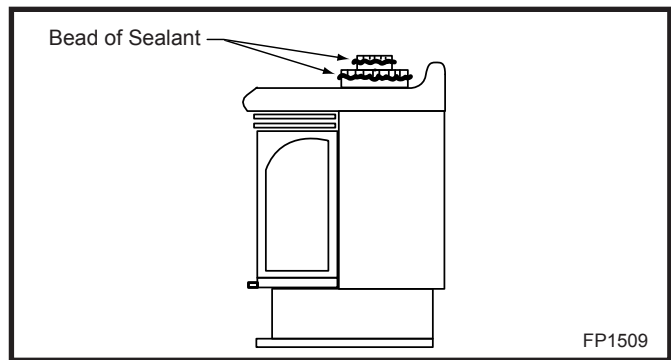

Fig. 16 Horizontal vent length.
Apply a bead of high temperature sealant to the inner and outer flue collars of the stove and using appropriate venting component(s) attach to stove with three (3) screws. (Fig. 16) Follow with the installation of the inner and outer elbow. Again secure joints as described on Page 8.